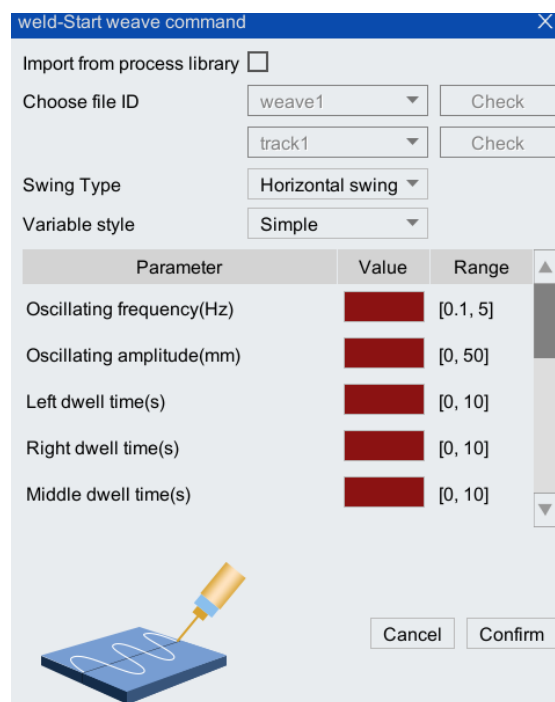

Figure 7-3 Swing instruction parameters are imported from the process library file
Step1. Click [Insert Cmd/Function Pack/Weld/Weld Command/ Start weave Command] in the program editor interface, and the interface shown in Figure 7-3 will pop up.